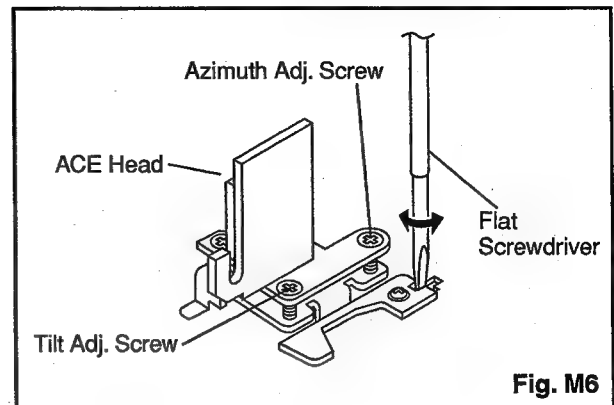

Fig. M6
4. If creasing or snaking is apparent, adjust the Tilt Adj. Screw of the ACE Head. (Fig. M6)
4. Use the Flat Screwdriver so that the PB FM signal at TP301 (C-PB) is maximum. (Fig. M6)
3. Adjust Azimuth Adj. Screw so that the output level on the AC Voltmeter or the waveform on the oscilloscope is at maximum. (Fig. M6)